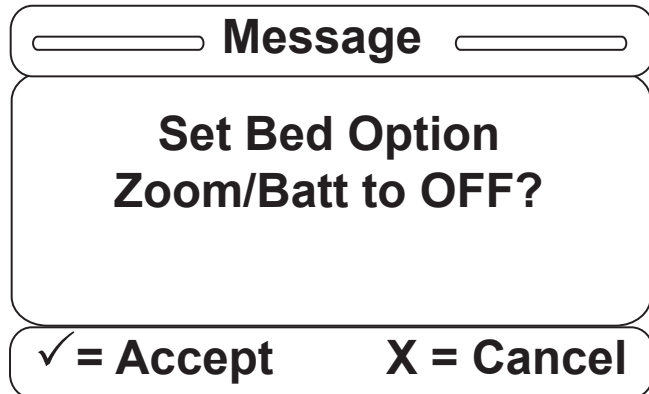

Figure S-7
7. Once you have selected one of the items, a confirmation screen such as that in Figure S-7 will be displayed. The confirmation screen text will vary based on the item you have selected. The confirmation screen displayed in Figure S-7 indicates that the user chose Zoom. Hit “Enter” on the footboard panel to confirm the Zoom/Batt. option; hit “Exit” to cancel the operation.